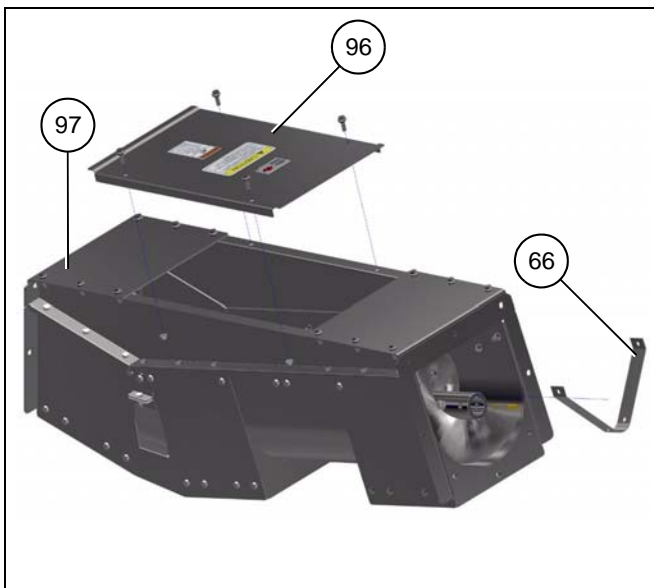

Figure 4BA
2. Prepare the incline elbow assembly (97) for installation by removing the middle lid (96). Remove four bin bolts and nuts. Remove the flight strap (66) securing the flighting by removing two flange nuts and by removing the 3-1/2" bolt and nut in the flight bushing. The removed flange nuts can be discarded. (See Figure 4BA.)